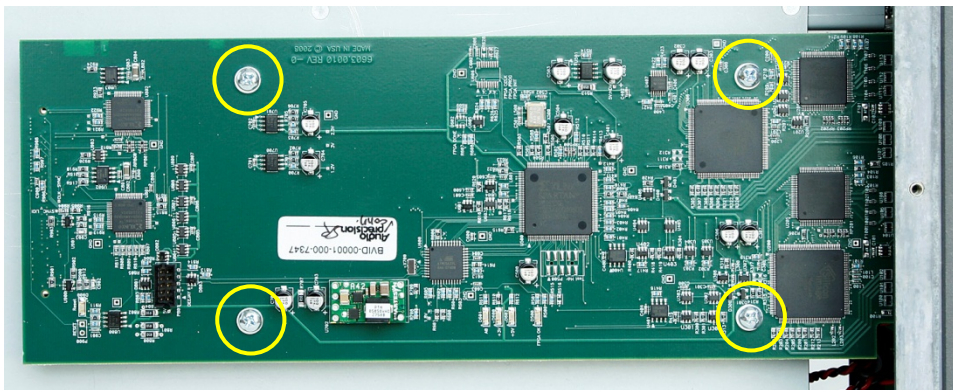

Figure 2 BVID circuit board screws
8. Remove the four screws that secure the HDMI circuit board (BVID), as shown in Figure 2.